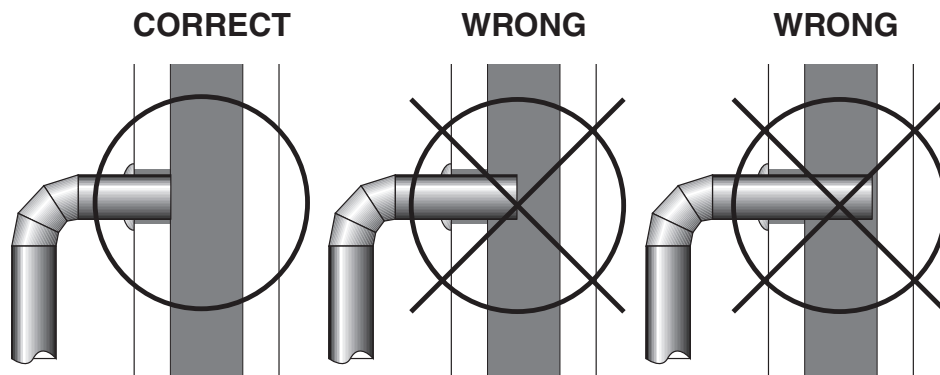

Fig. 3 – Stovepipe/Flue Connections
1. The smooth end of the stovepipe fits over the cast iron damper collar. Secure with three (3) sheet metal screws.
4. The pipe cannot extend into the chimney flue (figure 3).
5. Secure pipe/elbow sections with three (3) sheet metal screws at each joint to make the piping rigid.
6. It is recommended that no more than two (2) 90° bends be used in the stovepipe installation. The use of more than two 90° bends may decrease the amount of draw and possibly cause smoke spillage. Where possible, use only corrugated (nonadjustable) elbows. These provide a better seal.